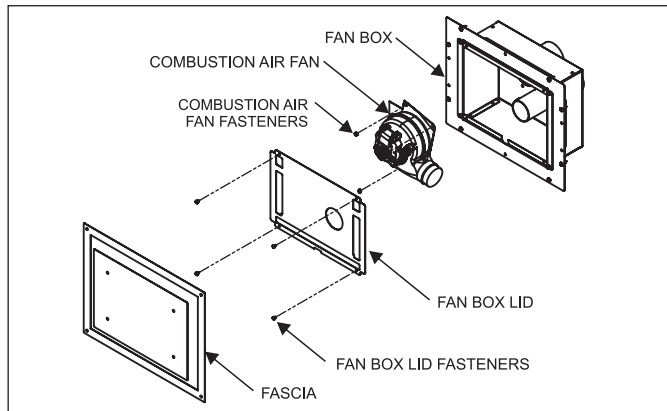

FIG 54 Replacing the Combustion Air Fan (Horizontal configuration)
1. The Combustion Air Fan is located in the Flue Terminal Box. Locate the Flue Terminal Box and Lift the Fascia upwards to unhook from the Fan Box (**FIG 54**).(* Horizontal flue terminal)